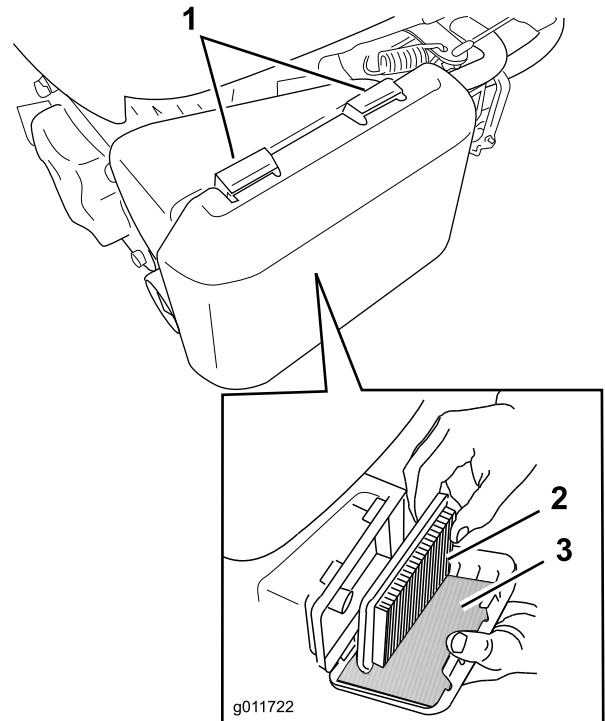

Figure 18
1. Press down on the latch tabs on top of the air cleaner cover (Figure 18).
3. Remove the paper air filter and the foam pre-filter (Figure 18).